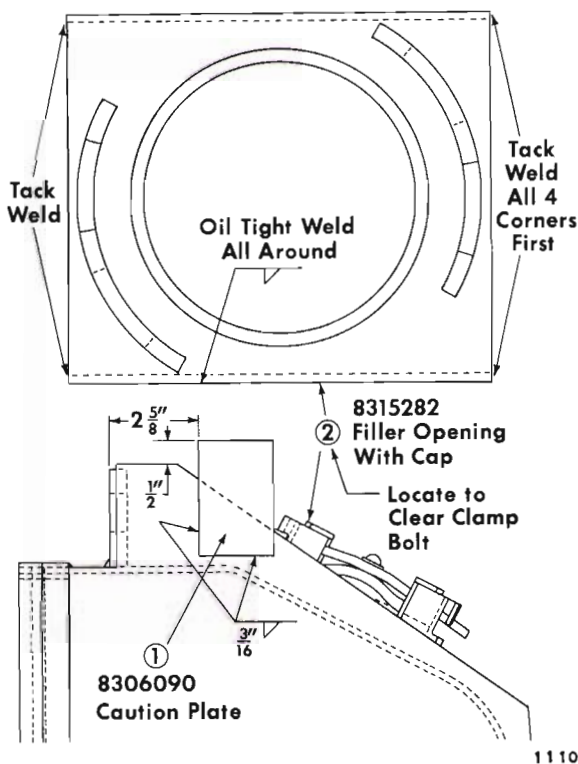

Fig. 6 - Filler Cap Application
10. All upper half gear cases should be provided with the latest design cap and filler opening. Early model gear cases have a flip open type of cap, which has a tendency to leak with the reduced maintenance design unless the the spring and gaskets are maintained in excellent condition. The latest design filler opening and cap assembly 8315282 can be added to any upper half gear case, Fig. 6. It should be located so that the clamping bolt can be removed without interference from the locking segments on the cap.
13. A caution plate 8306090 is to be welded to the filler cap end of the gear case as shown in Fig. 6. The purpose of the caution plate is to alert maintenance personnel, on assembly, to check the lower gear case for gutter retainer blocks so as to prevent usage of unmodified lower gear cases with removable gutter upper half assemblies.
3. If there is no filler cap on the lower gear case, apply 8315282 filler opening and cap assembly. Locate the assembly so the clamping bolt can be removed without interference from the locking segment of the cap. Refer to Fig. 6. Locate the center of the filler opening on the gear case band, mark center, then drill a 4-1/2" hole through